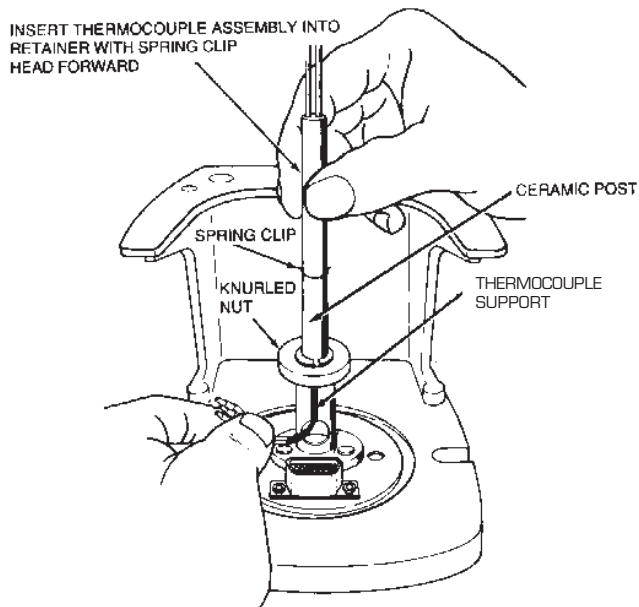

Figure 2.15
6. Carefully insert the thermocouple assembly (with the knurled nut), wire-lead end first, into the thermocouple support, slipping the wire leads through the slot in the support (see Figure 2.15).